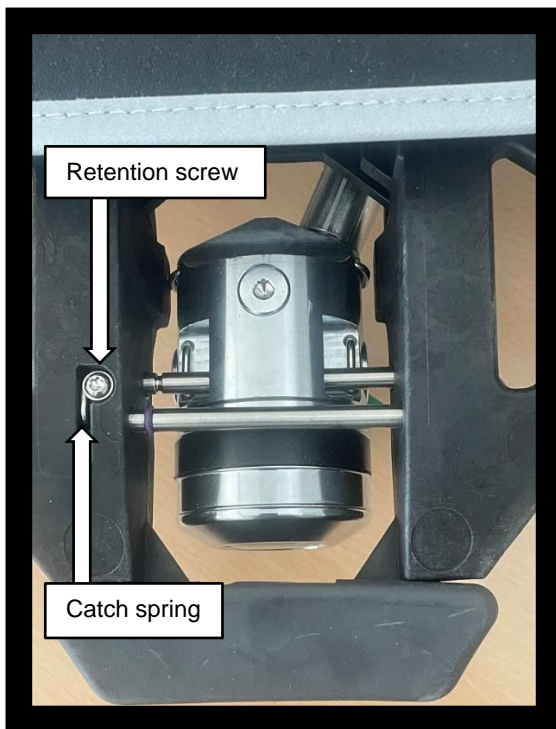

Figure 3 – Catch Spring and Retention Screw
1. Visually inspect to confirm the retention screw and catch spring are assembled. (figure 3)